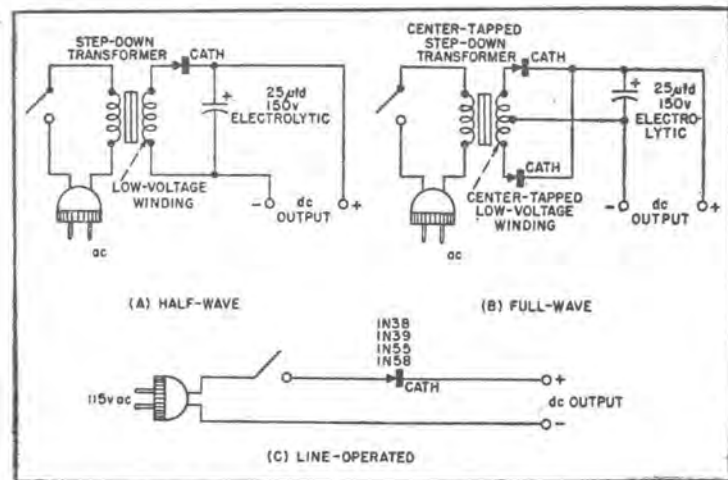

Figure 39. Low-Current Power Supplies.
WHEN power supplies are called upon to deliver only small current values (not in excess of 50 milliamperes dc), real savings in space can be obtained by using crystal diodes as rectifiers. Figure 39 shows several circuits for low-current power supplies. These units may be employed for operating dc relays from ac, supplying fixed bias voltage for amplifiers, microphone voltage for simple "house-line" telephones, and similar uses.
Figure 39(A) shows a half-wave power supply. The IN34 may be used in this circuit to supply output currents not exceeding 50 milliamperes; the IN56 up to 60 ma. The secondary of the step-down
Figure 39(B) shows a full-wave circuit. Here; each half of the center-tapped secondary winding of the step-down transformer must deliver not more than 20 volts rms. The resistance of the output circuit (resistance of the dc device to be operated plus any additional series resistance required) must be adjusted for
Figure 39(C) shows a half-wave circuit which may be operated directly from the power line for 100-volt, low-current output. This circuit is recommended only for applications in which a filter capacitor is not required. Here, the resistance of the output circuit (resistance of the